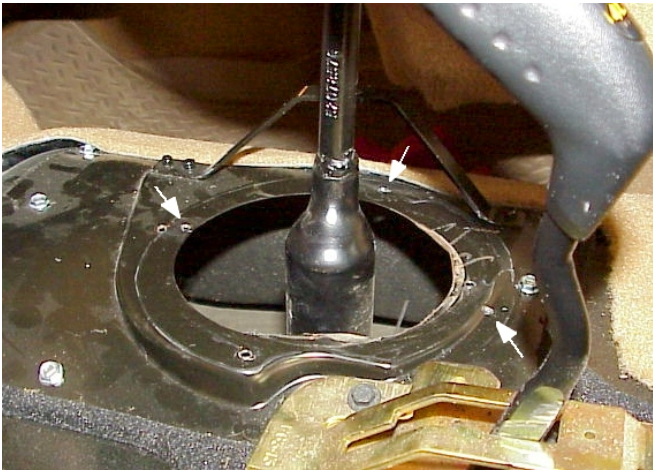

Figure 16
8. Rotate the boot clockwise to match the increased floor pan opening. Mark and drill the three new mounting holes. See figure 16.